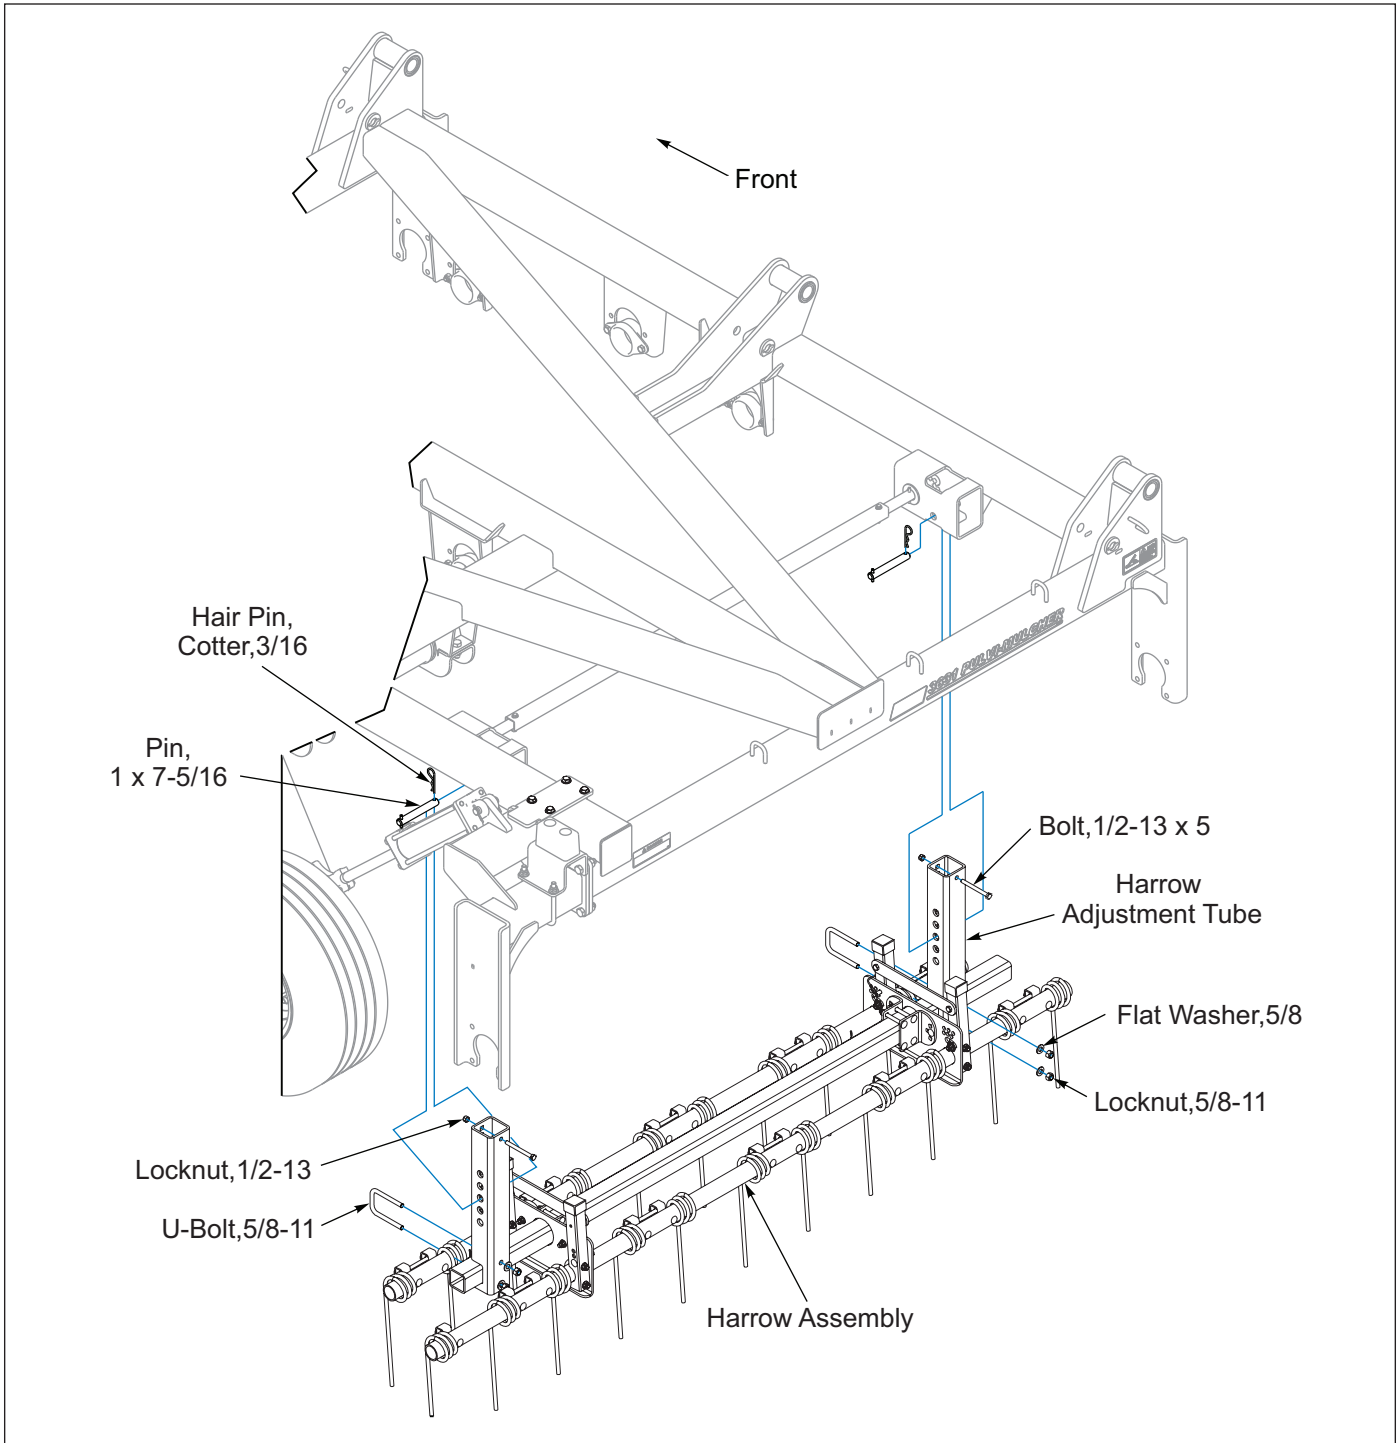

Figure 2-69: Left Hand Wing Harrow
1. Remove 1 x 7-5/16 Pins from each Wing Frame Adjuster Mount. Insert a Harrow Adjustment Tube into each Wing Frame Adjuster Mount and re-insert 1 x 7-5/16 Pin in the bottom hole. Secure with 3/16 Hair Pin Cotter. See Figures 2-69 and 2-70.